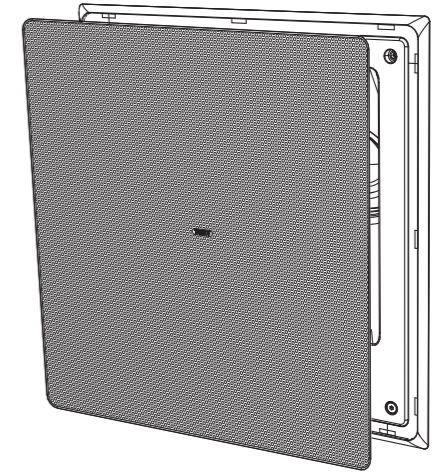

Fig. 21. Install the grille
1. The grille should be carefully fitted by lining up the edges of the grille carefully with the baffle and frame inside edges (Fig. 21). To avoid indentation damage, do not press the centre of the grille; apply even pressure to each corner as it is pressed firmly into position.